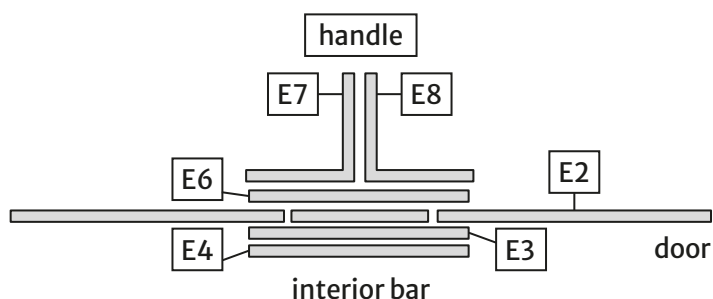

Fig. 4: Cross-section rotating bar
**Step 17** Glue the two parts of the interior bar [E3 and E4, sheet 7] with their grey sides back to back, accurately aligned at the edges (Fig. 4 shows a cross-section of the bar and door).